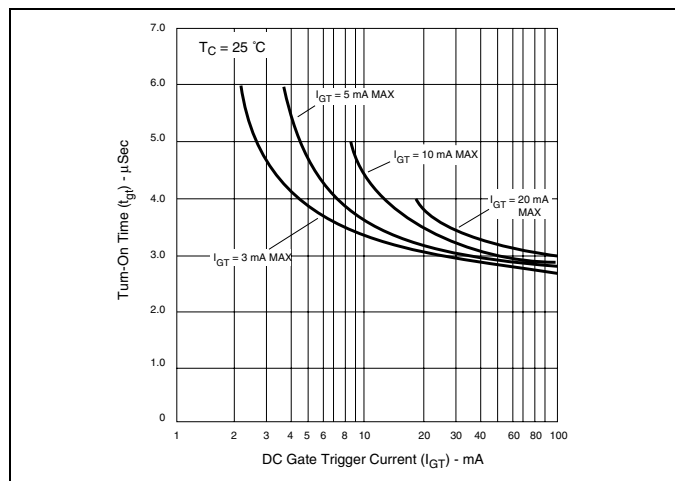

Figure E1.8 Turn-on Time versus Gate Trigger Current (Typical)
- (9) See Figure E1.8 for t_{gt} versus I_{GT}.